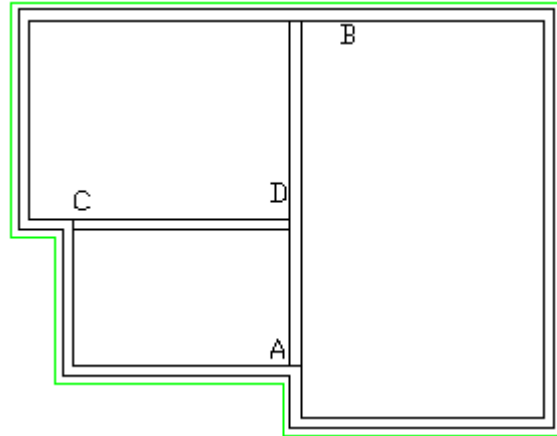

Figure 8
7. Add the two interior walls (Fig. 8)
[Justification/Scale/STyle]: {snap to the END point A} Fig. 8